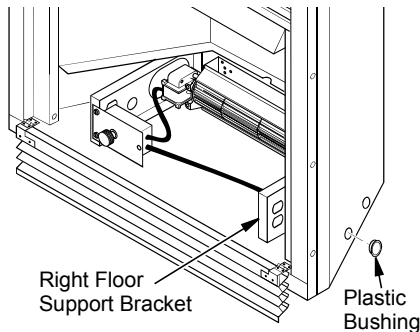

Figure 22 - Installing Plastic Bushing for Power Cord
- a. **If your fireplace system is installed as a freestanding unit with an accessory mantel**, determine whether the power cord will exit the left side or the right side of the firebox. Install 1 plastic bushing provided into the 1.5" hole in the floor support bracket on the exit side (see Figure 22). Install the second plastic bushing provided into the 1.5" hole in the outer casing through which the power cord will exit. Route power cord through both plastic bushings and plug the power cord into a properly grounded 3-prong wall receptacle near the firebox.